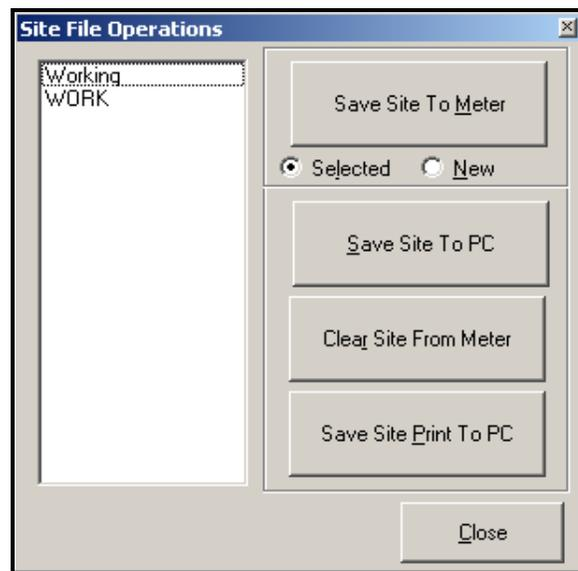

Figure C-17: The Site File Operations Window
3. Click on the [Site Files] button. The *Site File Operations* window (shown in Figure C-17 below) opens.
1. Highlight the desired site in the left pane. (See Figure C-17 on the previous page.)